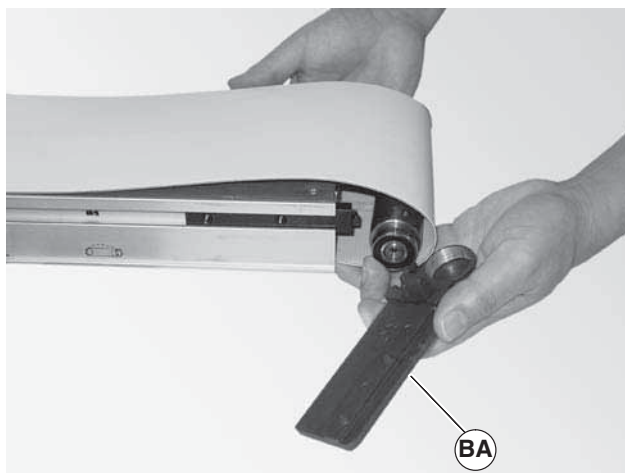

Figure 31
2. Remove the head plate (Figure 31, item BA) from the conveyor frame.